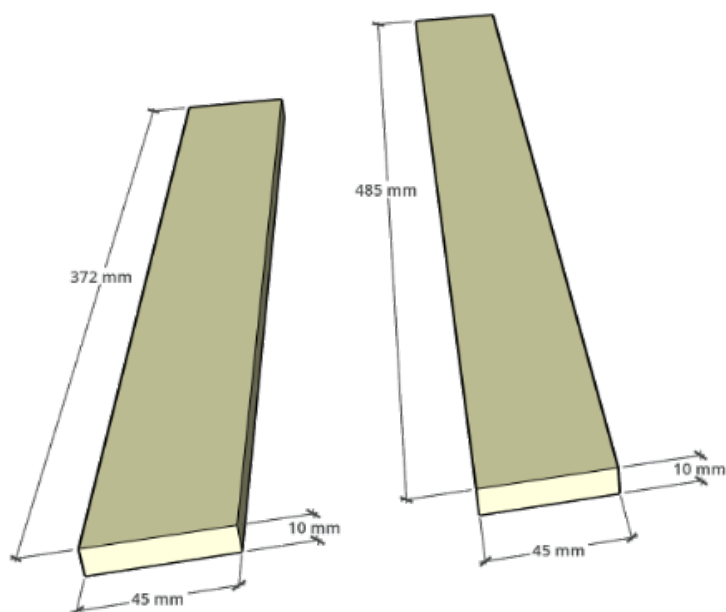

Figure 5
- (See **Figure 5** for board dimensions.)